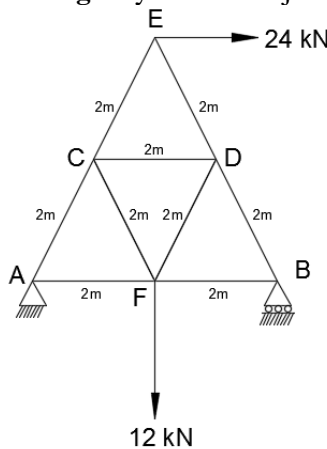

Fig.3
2. (a) Analyse the loaded truss shown in **fig.3** by method of joints and tabulate the results. **14M**